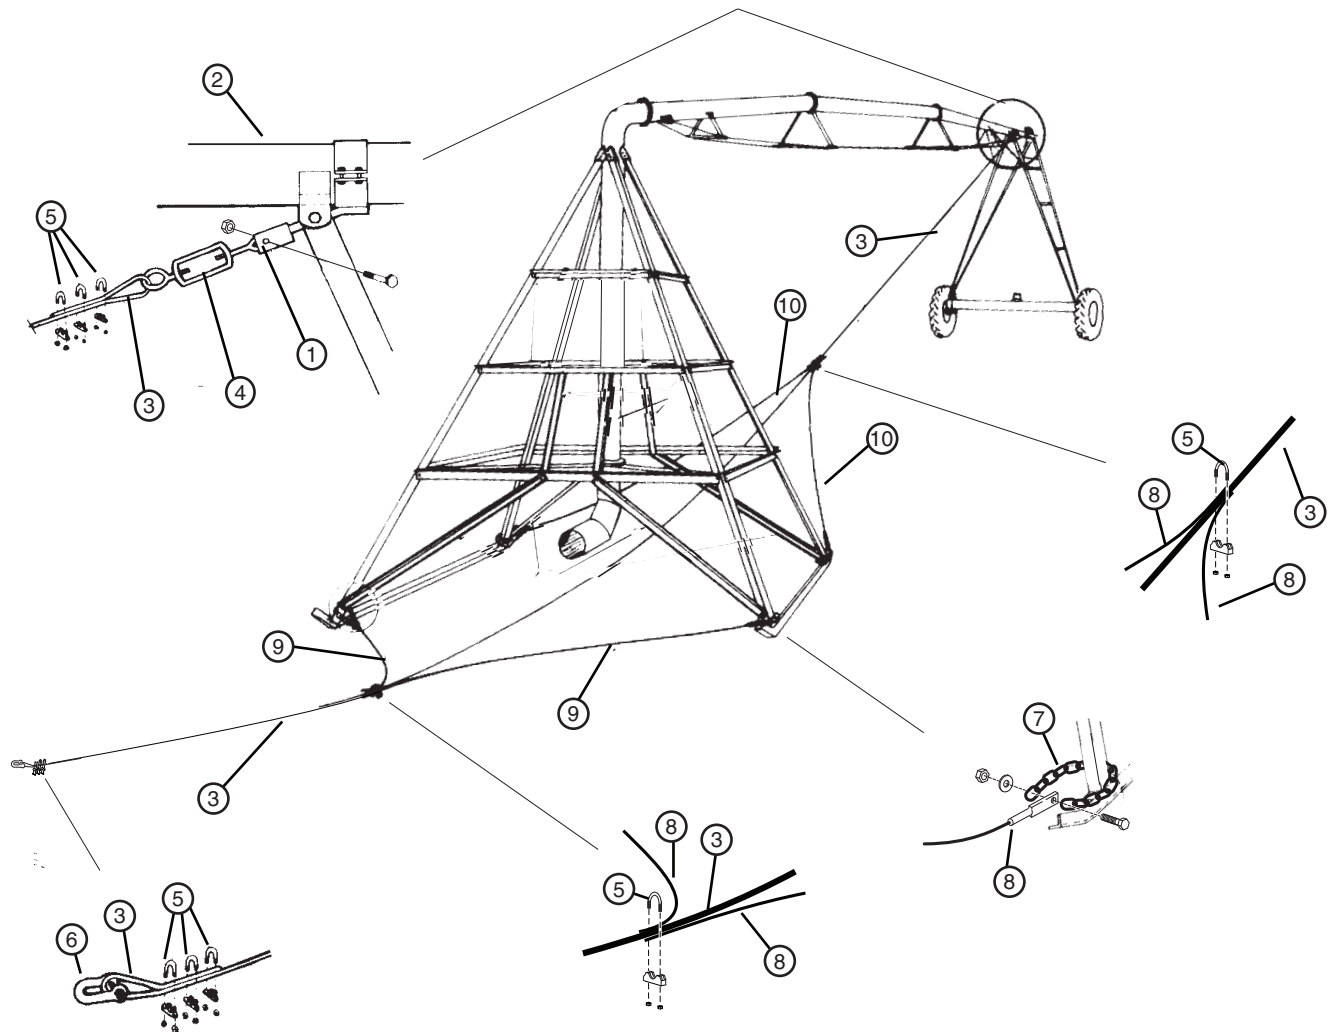

Figure 45-1
11. Install the tow cable attachment bracket on the span pipe above the drive unit. See figure 45-1.
12. On one end of 1/2 in (12.7 mm) tow cable, extend 2 ft (610 mm) of cable through one of the eye bolts on turnbuckle, then clamp tow cable together with three 1/2 in (12.7 mm) cable clamps. See figure 45-1.
13. Bolt the other eye bolt on turnbuckle to the tow cable attachment bracket. See figure 45-1.
14. On the other end of 1/2 in (12.7 mm) tow cable, extend 2 ft (610 mm) of cable through a clevis and clamp with three 1/2 in (12.7 mm) cable clamps. See figure 45-1.
15. Wrap chains around the bottom of each pivot leg, then bolt a pivot trail cable to each chain. See figure 45-1
- Adjust the leading trail cables on the tow cable, so that while towing, the leading ends of pivot skids raise approximately 4 in (102 mm) to prevent the skids from digging into the ground. See figure 45-1.
- Adjust the trailing trail cables on the tow cable, so that while towing, the trail cables are taught. This will reduce the wallowing action of the skid pivot. See figure 45-1.